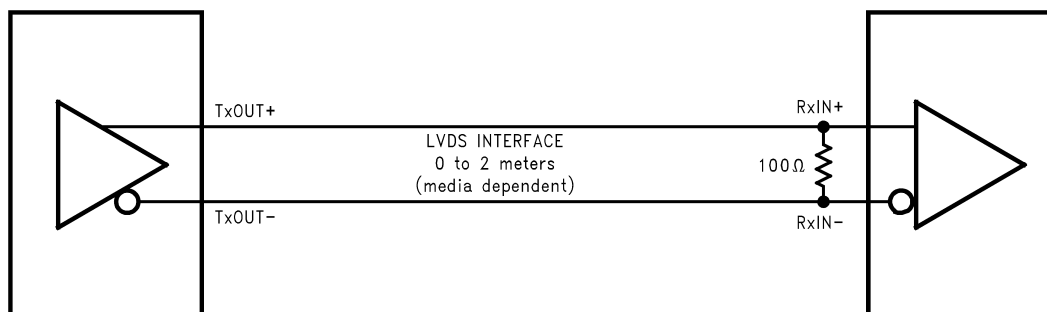

Figure 22. LVDS Serialized Link Termination
**TERMINATION:** Use of current mode drivers requires a terminating resistor across the receiver inputs. The CHANNEL LINK chipset will normally require a single 100Ω resistor between the true and complement lines on each differential pair of the receiver input. The actual value of the termination resistor should be selected to match the differential mode characteristic impedance (90Ω to 120Ω typical) of the cable. Figure 22 shows an example. No additional pull-up or pull-down resistors are necessary as with some other differential technologies such as PECL. Surface mount resistors are recommended to avoid the additional inductance that accompanies leaded resistors. These resistors should be placed as close as possible to the receiver input pins to reduce stubs and effectively terminate the differential lines.